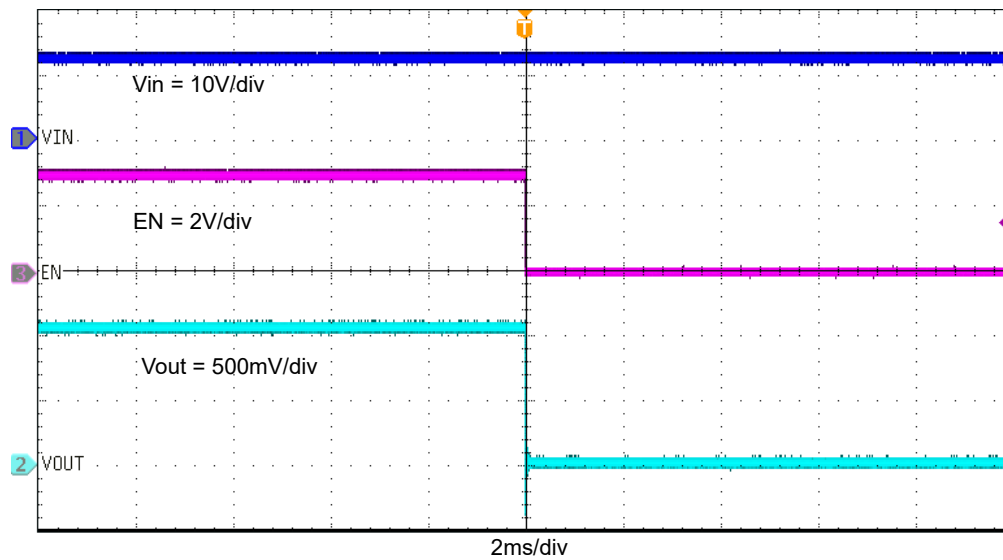

Figure 4-13. TPS563242EVM Shutdown Relative to EN
Figure 4-13 shows the TPS563242EVM shut-up waveform relative to enable (EN). The load is 3A.